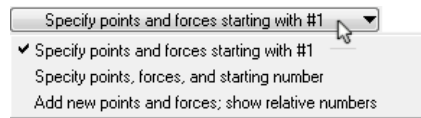

Figure 2. Options for creating new points.
- ① Drop-down list used to specify one of three options for creating new points (Figure 2):